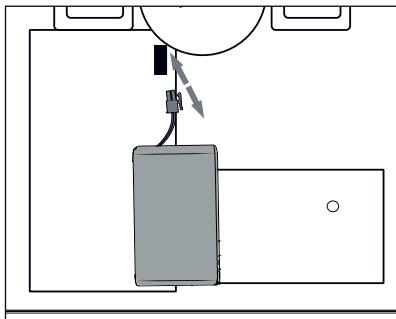

Fig. 17
- Disconnect the plug connection of the battery (see Fig. 17 and 18), and remove it from the battery compartment.